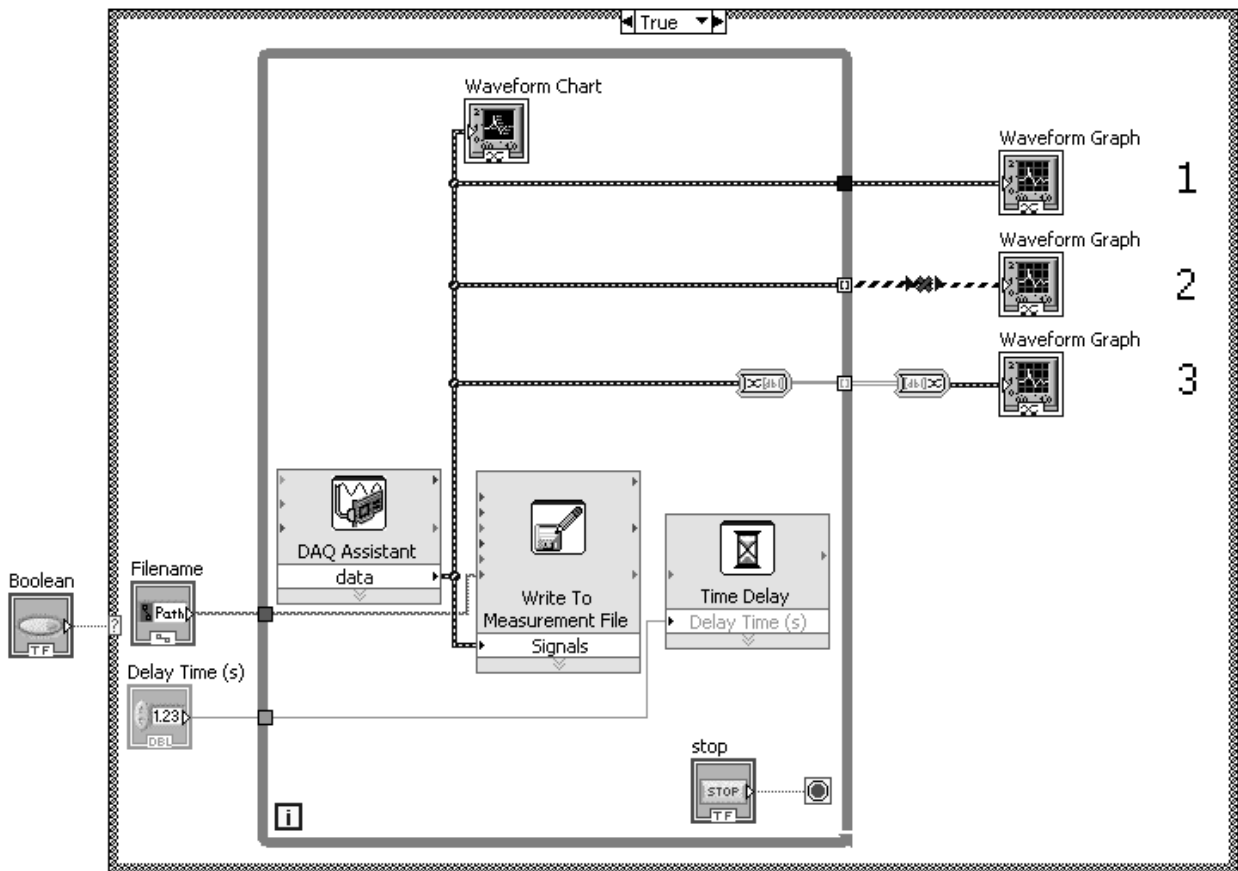

Figure 1.4.17 Intermediate stage of the example VI to continuously measure analog input data: three attempts to display data in a graph
35. Using the “Connect Wire” (solder spool) cursor, wire the Express VIs as shown in Fig. 1.4.17 (third option). A broken wire will appear until indexing is enabled. Right click on the tunnel and select “Enable Indexing.”
approach as shown in Fig. 1.4.17. The problem with the first approach to display data in a graph (option 1 in Fig. 1.4.17) is that the tunnel at the border of the While Loop has indexing disabled, as shown by the solid tunnel. The graph will display only the last measurement of each channel. For most data types, this problem can be corrected by enabling indexing so that the values at every iteration are stored in an array. However, the problem with this approach (option 2 in Fig. 1.4.17) is that the waveform graph cannot accept an array of dynamic data as shown by the broken wire. A solution is shown in the third approach using the Express VIs to convert dynamic data.
In the third approach (option 3 in Fig. 1.4.17), indexing occurs with the numeric data type. Two analog input measurements are made every iteration of the While Loop. The “Convert from Dynamic Data” Express VI converts the two values of dynamic data into a 1-D array of numeric data in row format, as seen by the thick line. The 1-D arrays are indexed at the tunnel forming a 2-D array where each channel of data is a column. The 2-D array of numeric data is then converted back into the dynamic data type using the “Convert to Dynamic Data” Express VI.